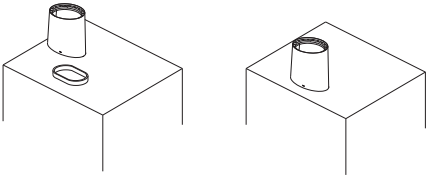

Figure 11
- **Sorties ovales (Figure 11)**